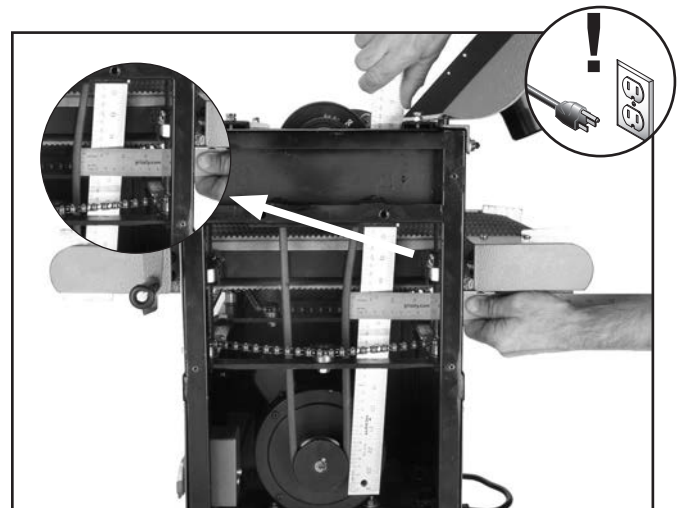

Figure 25. Checking V-belt tension with a straightedge and a ruler.
2. Using a straightedge and ruler (**Figure 25**), push on the middle of the V-belt. The correct V-belt tension is achieved when the V-belt can be deflected $\frac{1}{2}$ "– $\frac{3}{4}$ " with moderate pressure.